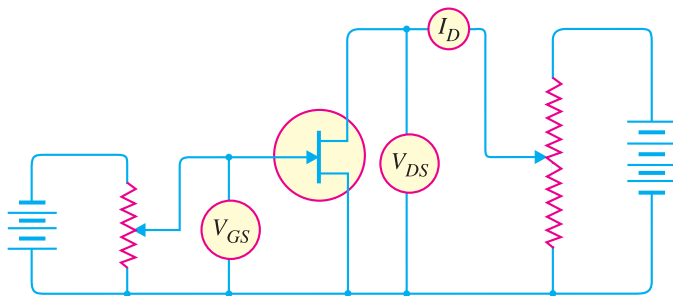
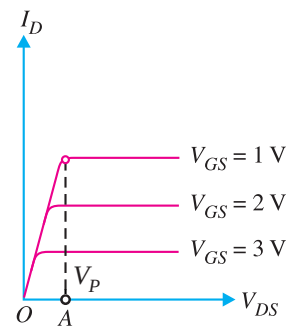

Fig. 19.7
Fig. 19.8
The curve between drain current (I_D) and drain-source voltage (V_{DS}) of a *JFET* at constant gate-source voltage (V_{GS}) is known as *output characteristics of JFET*. Fig. 19.7 shows the circuit for determining the output characteristics of *JFET*. Keeping V_{GS} fixed at some value, say 1V, the drain-source voltage is changed in steps. Corresponding to each value of V_{DS} , the drain current I_D is noted. A plot of these values gives the output characteristic of *JFET* at $V_{GS} = 1V$. Repeating similar procedure, output characteristics at other gate-source voltages can be drawn. Fig. 19.8 shows a family of output characteristics.
- (i) At first, the drain current I_D rises rapidly with drain-source voltage V_{DS} but then becomes constant. The drain-source voltage above which drain current becomes constant is known as **pinch off voltage**. Thus in Fig. 19.8, OA is the **pinch off voltage** V_p .